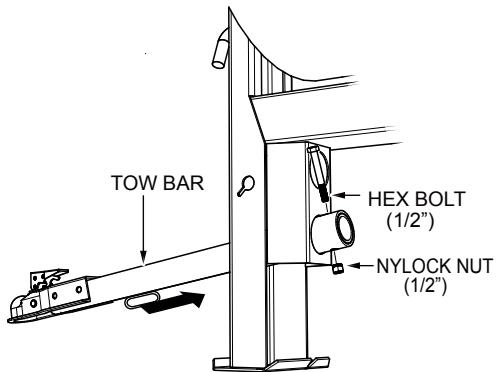
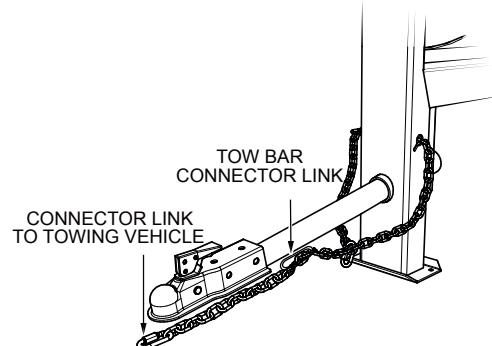

Figure 3. Insert Tow Bar
Figure 6. Extend Safety Chain
3. After the tow bar has been connected to the mixer (Figure 3–Figure 6), securely attach the mixer's coupler to the hitch ball on the towing vehicle. Make sure the lock lever is in the **DOWN** (locked) position and the safety pin is inserted.
2. After the tow bar has been connected to the mixer (Figure 3–Figure 6), secure either type of tow bar to the towing vehicle, following state and county towing regulations.
1. Insert the tow bar (Figure 3) through the round opening at the bottom of the mixer stand.
2. Align the hole on the tow bar with the hole on the mixer frame and insert the 1/2-inch bolt (Figure 3) through the tow bar and frame. Secure the tow bar to the frame with the 1/2-inch nyloc nut. Tighten to 40 lbf·ft (54.2 N·m).
5. Extend the safety chain along the length of the tow bar and loop it through the tow bar's connector link (Figure 6). Remove any excess chain slack.
6. Connect the free end (connector link) of the safety chain to the towing vehicle (Figure 6). It is critical that the length of the chain be properly adjusted to prevent the draw bar and the front of the mixer stand from dropping to the ground (contact) in the event of the draw bar becoming disconnected from the towing vehicle.